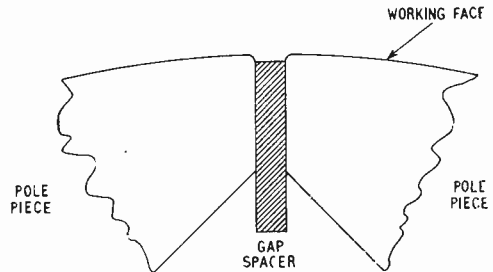

Fig. 14. "Dig-out" wear of the gap spacer.
**Spurious Effects.**—Soft gap spacer material can cause a falling off in high-frequency response and, in some cases, azimuth change. The characteristic "dig-out" wear is illustrated in Fig. 14 representing a much enlarged view looking along the gap. Copper, aluminium and similar materials used as gap spacer shim exhibit this effect, for they are soft compared with the laminated pole-pieces. Beryllium copper, phosphor-bronze, etc., have been found suitable.